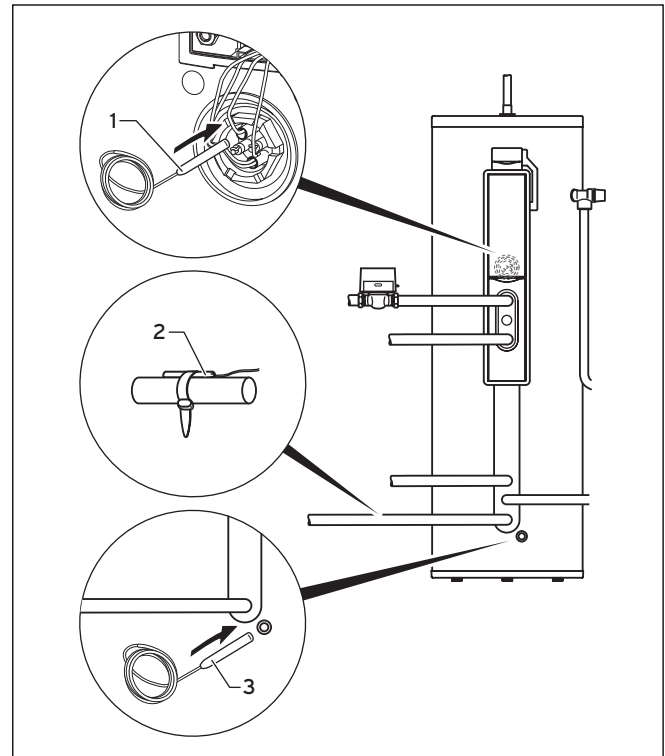

Fig. 5.23 Installation of the VR 10 temperature sensor
- Installation of two VR 10 temperature sensors in the solar cylinder (see Fig. 5.23)
- Attachment of the solar gain sensor to the solar circuit return (see Fig. 5.23)
- Push one of the VR 10 temperature sensors (1) supplied with the solar control in the now vacant immersion sleeve, as illustrated in Fig. 5.23.
- Push a further VR 10 temperature sensor (3) in the immersion sleeve for the bottom cylinder area.
- Attach the temperature sensor for the gain (2) to the return pipe of the solar circuit nearby the solar cylinder.